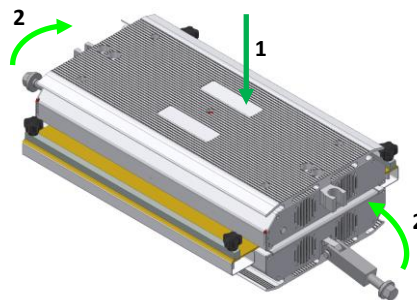

Fig. 8-6 – Press closing
- Positioning of the HabaSYNC timing belt on joining plate Fig. 8-6);
- Insert the pins of the lower plate into the seats of the upper plate (ref. 2 Fig. 8-6)